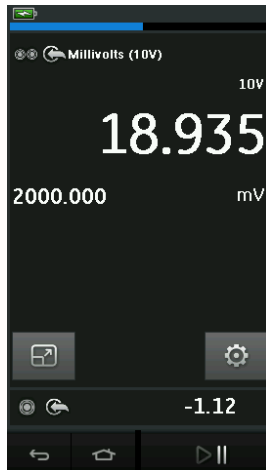

Figure 2-16: Calibration Window - Expanded View
- Figure 2-16 displays an expanded view of the selected channel and minimizes the remaining channels.